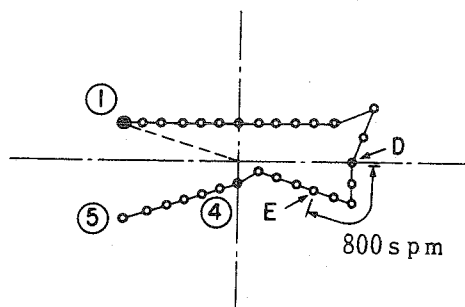

Fig. 8
Step 29 Move the needle to position D shown in Fig. 8.
Step 32 Move the needle using the **Forward** and **Backward** keys, and confirm that the sewing speed for the section shown in Fig. 8 has been changed by checking the indication on LED.